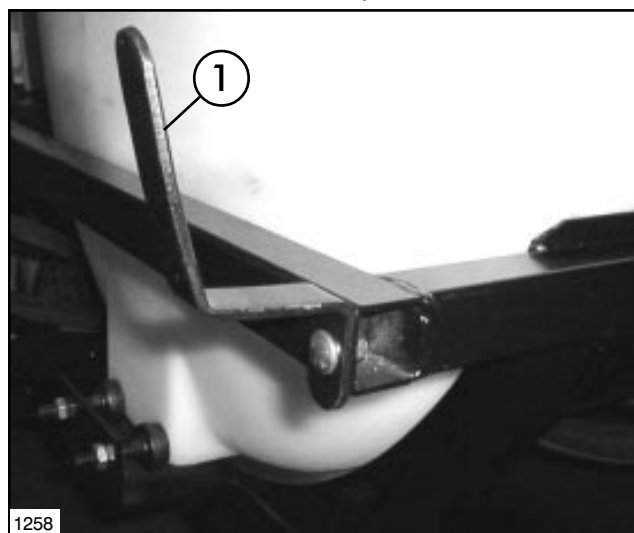

FIG. 7
7. Connect Suction Strainer to the 1" x 90° Hose Barb in top of Pump with 1 x 24" suction hose. Secure with (2) hose clamps.
8. Attach (1) Hose Hook to the R.H. and L.H. rear corners of Saddle Assembly. See FIG. 7.